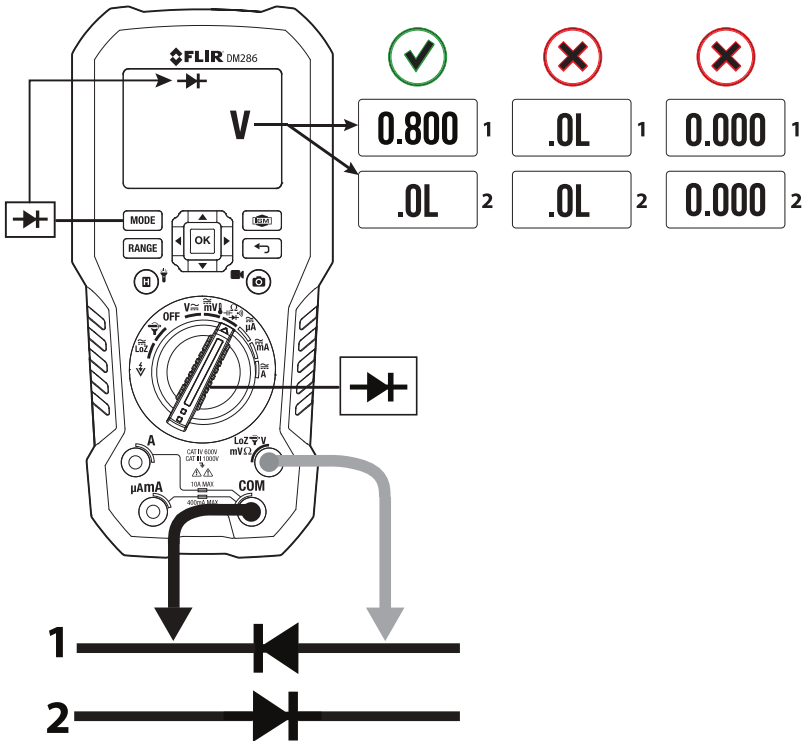

Fig. 9.6 Diode Test
3. As shown in **Fig. 9.6**, touch the tips of the test leads across the diode in one direction (1) and note the voltage reading. Touch the tips of the test leads across the diode in the opposition direction (2) and note that reading.
4. To determine if the diode is good or bad, use the voltage reading combinations shown in **Fig. 9.6** as a guide.